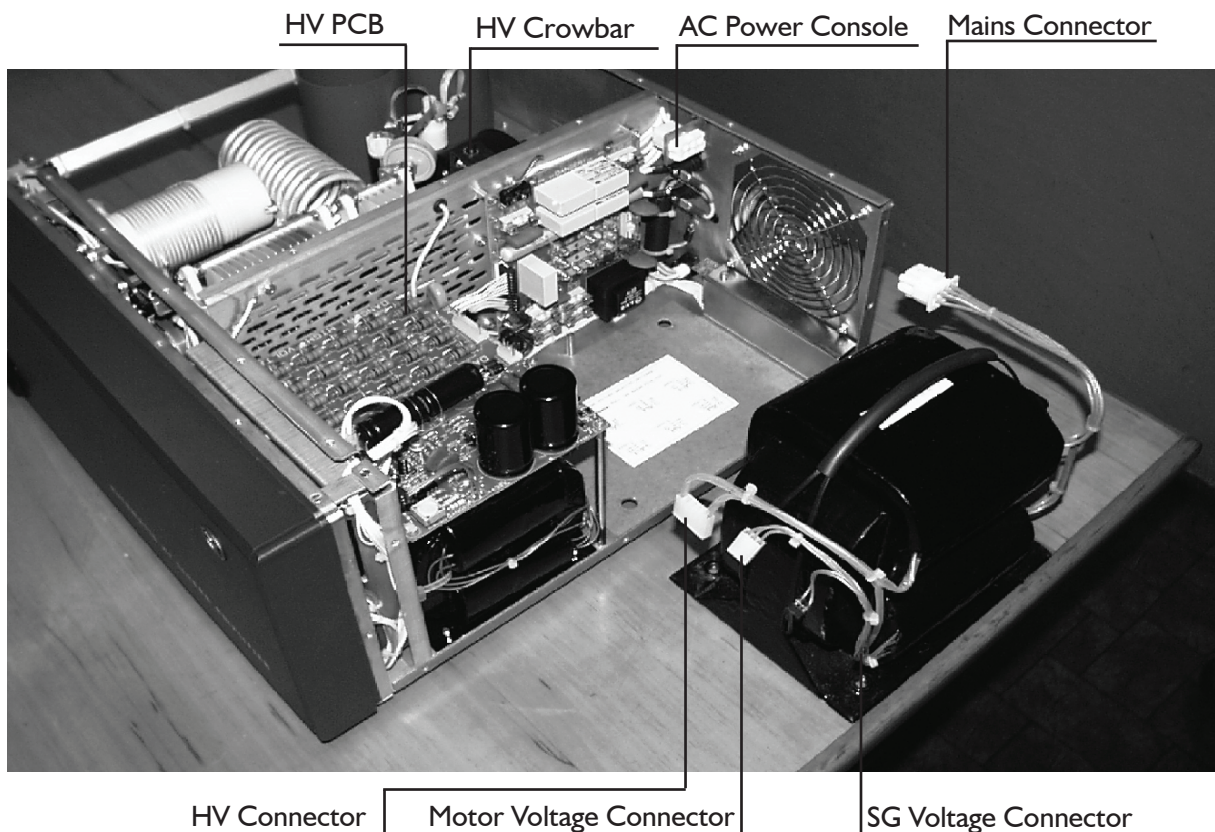

Fig.2-1 Transformer Installation
**Check the HV Crowbar (Fig. 2-1) - it must reliably short the HV lead to the chassis when the cover is removed.**
Orient the amplifier on the table so that the transformer compartment is in front of you (Fig.2-1)
The transformer's Mains Connector plugs into the AC power console (Fig.2-1). The other three connectors (HV, Motors Voltage & Screen Grid Voltage) plug into the HIGH VOLTAGE PCB, clearly seen on top.